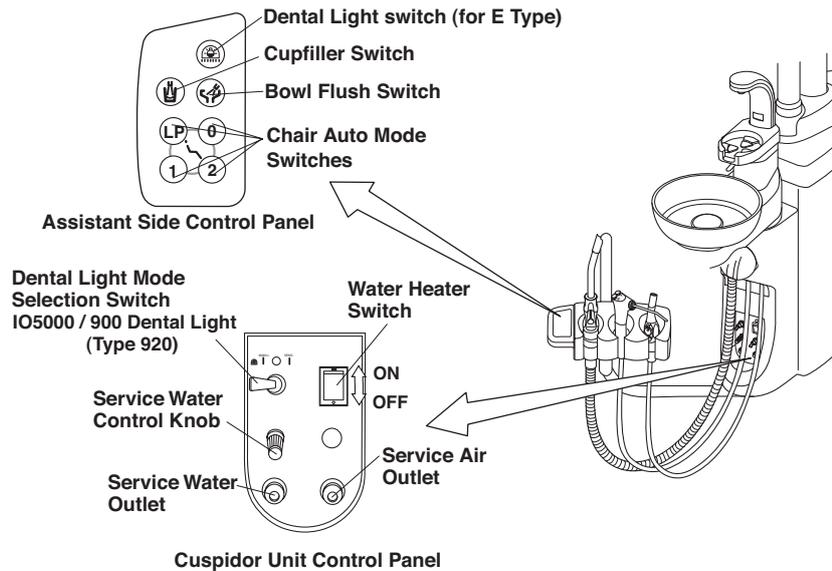

Fig.3-22 Assistant Side Control Panel and Cuspidor Unit Control Panel
(1) Assistant Side Control Panel (Fig.3-22)
(2) Cuspidor Unit Control Panel (Fig.3-22)
B. Water Heater Switch (Fig.3-22)
C. Service Water Outlet (Fig.3-22)
D. Service Water Outlet Control Knob (Fig.3-22)
E. Service Air Outlet (Optional)(Fig.3-22)